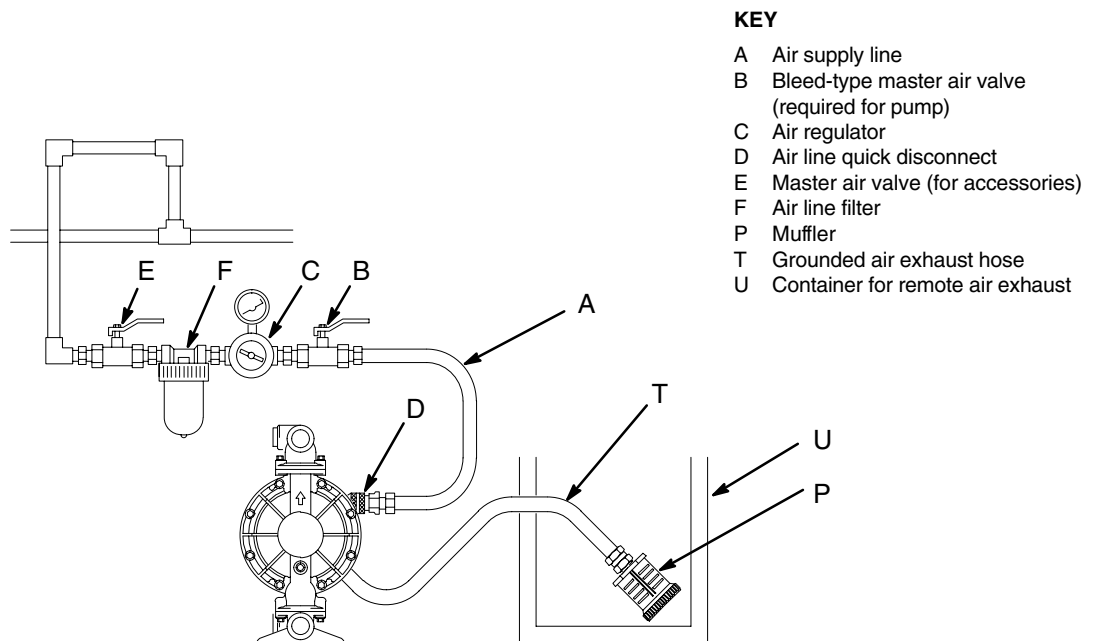

Fig. 6
Diaphragm failure will cause the fluid being pumped to exhaust with the air. Place an appropriate container at the end of the air exhaust line to catch the fluid. See Fig. 6.
1. Remove the muffler (P) from the pump air exhaust port.
2. Install a grounded air exhaust hose (T) and connect the muffler (P) to the other end of the hose. The minimum size for the air exhaust hose is 3/4 in. (19 mm) ID. If a hose longer than 15 ft (4.57 m) is required, use a larger diameter hose. Avoid sharp bends or kinks in the hose.
3. Place a container (U) at the end of the air exhaust line to catch fluid in case a diaphragm ruptures. See Fig. 6.